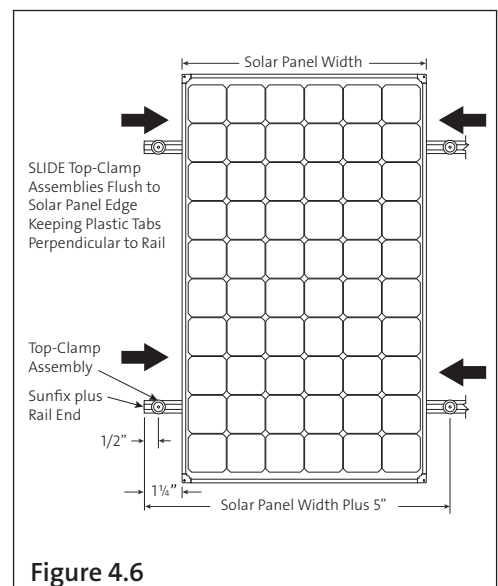

Figure 4.6
- 4.4. From the end of the rail, measure the width of the solar panel, plus about 5". (These additional 5" will ensure that the Top-Clamp Assemblies do not interfere with module placement.) Repeat for second rail. Refer to **Figure 4.6**.
- 4.5. Measure and mark $1\frac{1}{4}$ " from the end of rail. Lay solar panel against rail (between the clamps). Align the edge of the solar panel with this $1\frac{1}{4}$ " mark. Verify the manufacturer's approved solar panel attachment locations are being met. Refer to **Figure 4.6**.
- 4.6. Keeping the solar panel still and the plastic tabs perpendicular to the rail, slide the four Top-Clamp Assemblies to the solar panel. Be sure the Top-Clamp Assembly's plastic tabs are flush with the edge of the solar panel. Refer to **Figure 4.6**.